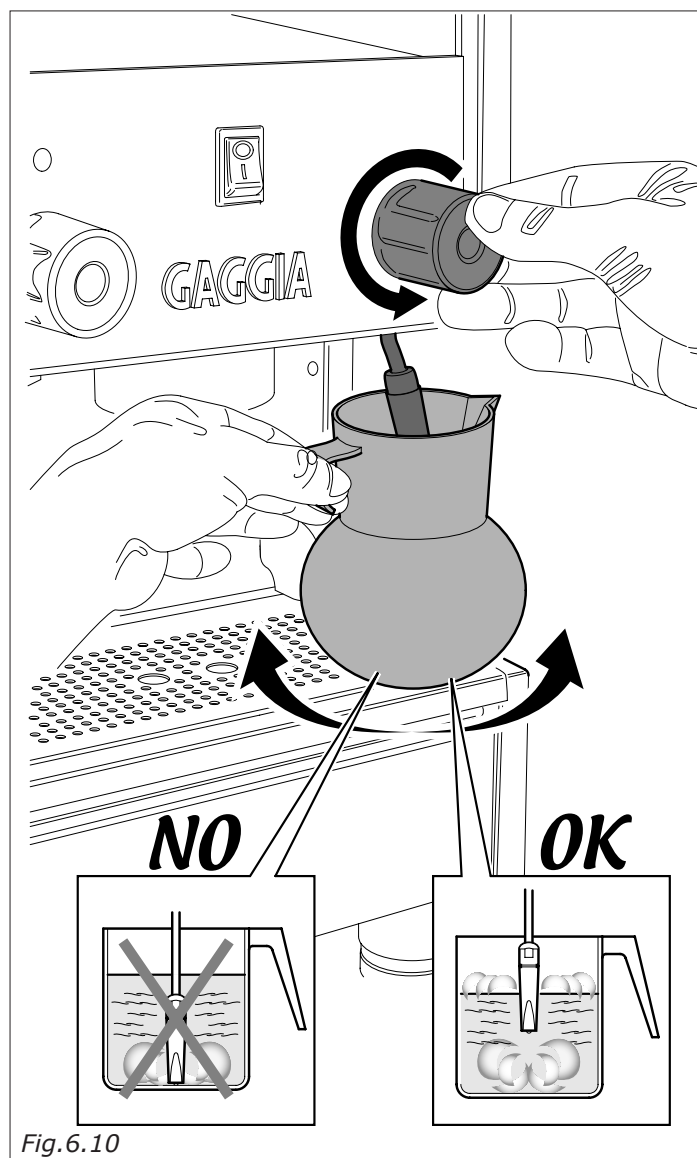

Fig.6.10
- Take a pot half filled with cold milk and place it under the steam rod (Fig.6.10).
- Slowly rotate the tap knob (Fig.6.10) anticlockwise to let the steam out.